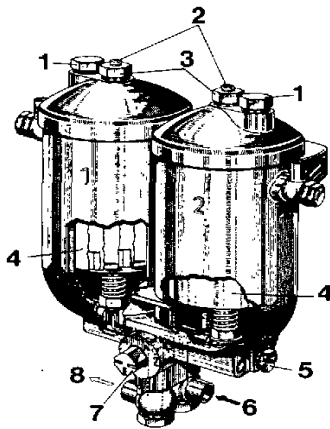
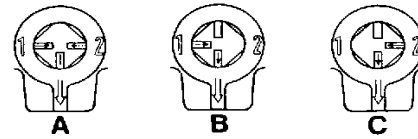

Fig. 131. Switch-over fuel filters
Fig. 132. Positions for three-way cock, switch-over fuel filters
- Fit a new gasket and tighten the cover. Loosen the filler plug (1) and fill the housing with diesel fuel. Tighten the plug.
- Turn the three-way cock to position "A", fig. 132 and allow the engine to run for a few minutes to air-vent the housing.
- Turn the three-way cock (7, fig. 131) to position "C" (fig. 132).
- Open the air-venting screw (2) for filter housing no. 1. Unscrew the draining plug (5) on the same housing and drain off the fuel into a vessel.
- Unscrew the tightening nut (3), lift off the cover and then lift out the filter element.